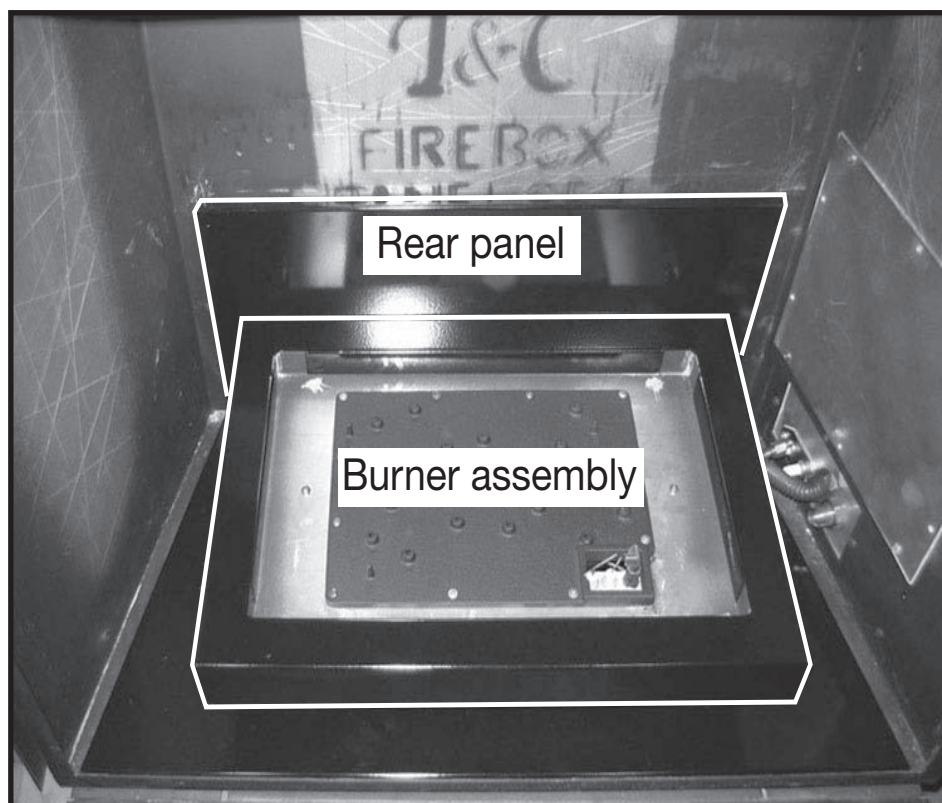

Figure 10: Lower rear panel and burner assembly.
9. Position the burner tray assembly into the firebox and against the lower rear panel (Figure 10).